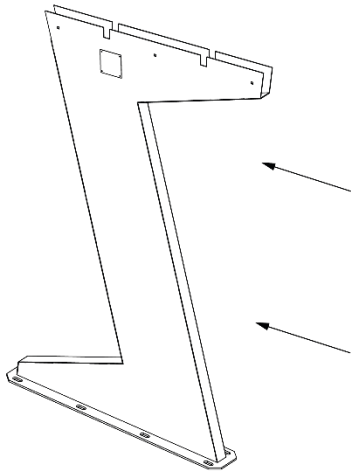

Fig. 7. Method of installing vertical support posts
2. The vertical supports are fixed to the threaded M20 rods protruding from the foundation. The supports should be faced towards the entry direction (see fig. 7), and the caps should be found on the inner side of the carport. A forklift can be used for transporting, positioning, and assembling the vertical supports on the foundation.